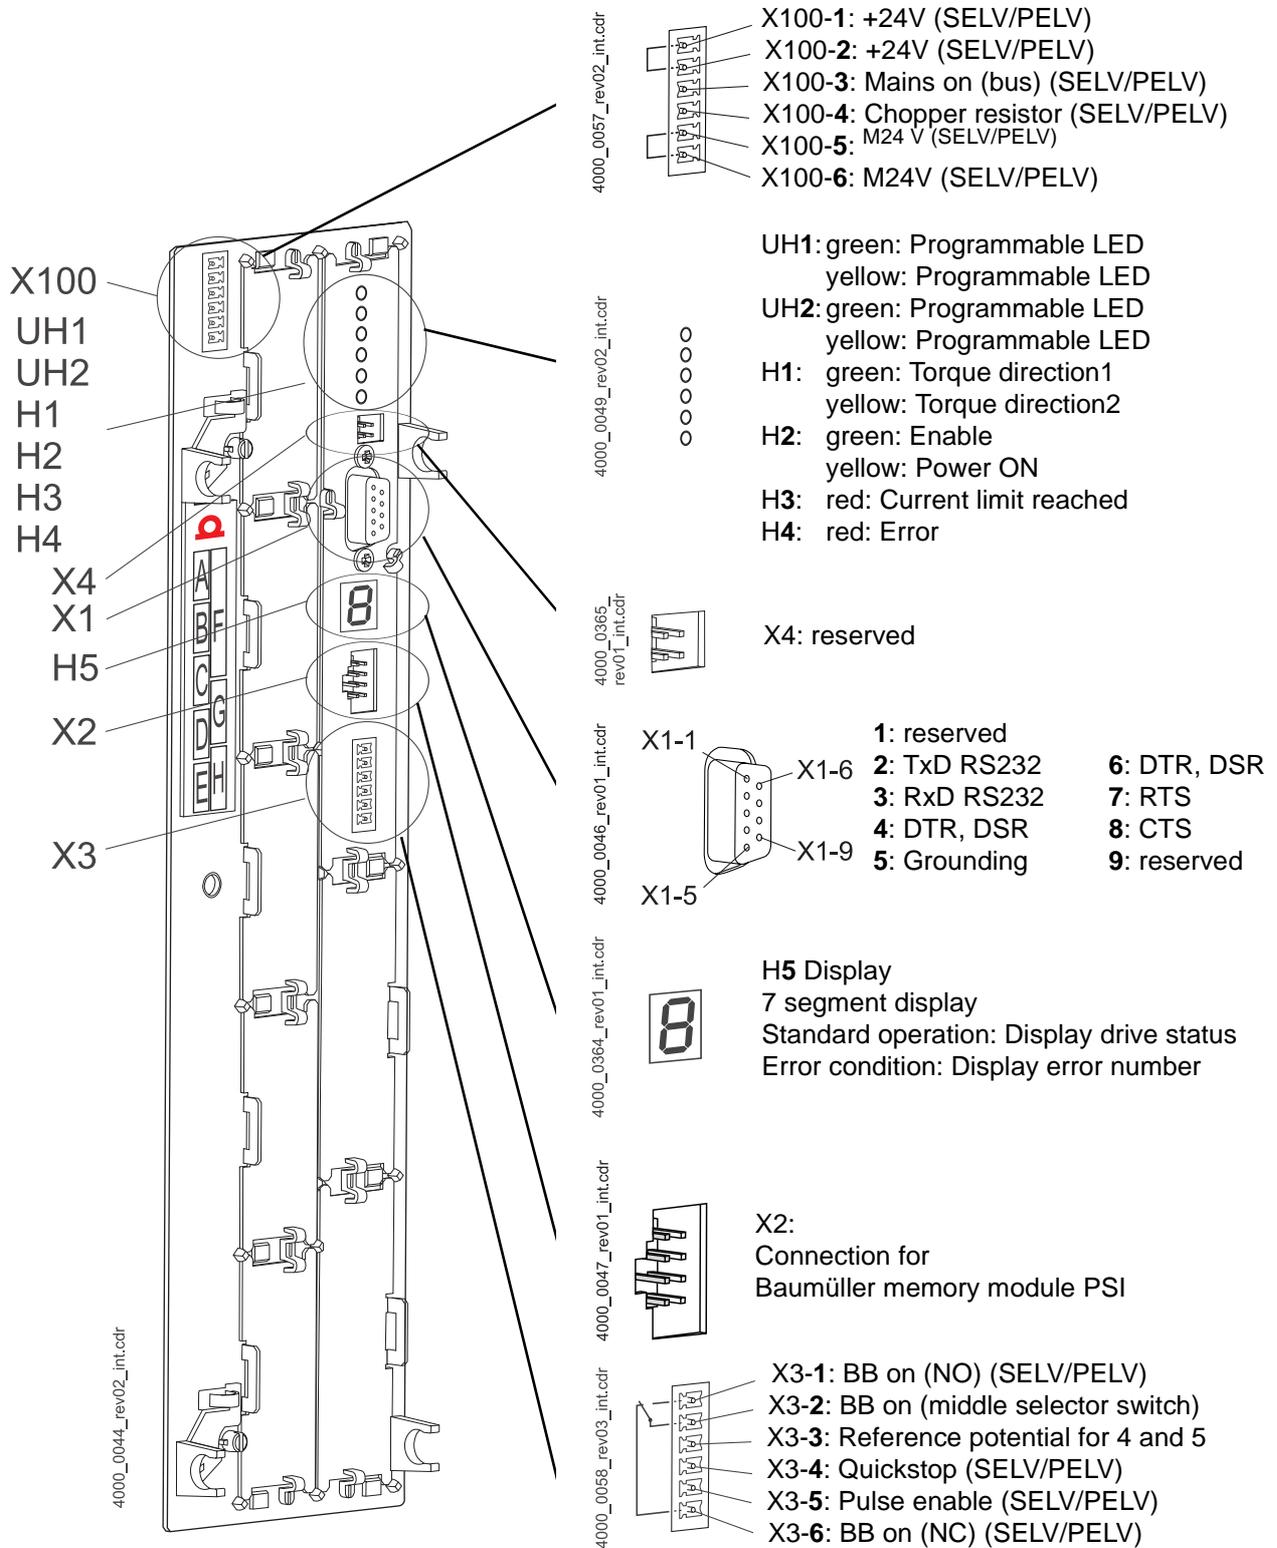

Figure 18: Connection X100 and connections of the controller unit
- X1 Serial interface (RS 232), see ▶Figure 18◀ on page 32.
- X3 Connections for ready-for-use, quickstop, pulse enable, see ▶Figure 18◀ on page 32.
- X100 Connections for 24 power supply, further information see ▶Figure 18◀ on page 32 (SELV/PELV)